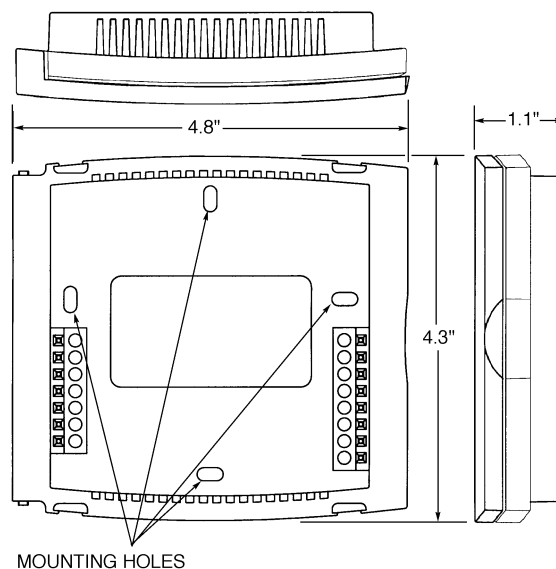

Fig. 1 — Thermostat Mounting
3. Remove the thermostat cover from wall plate (mounting base) to expose mounting holes. See Fig. 1.